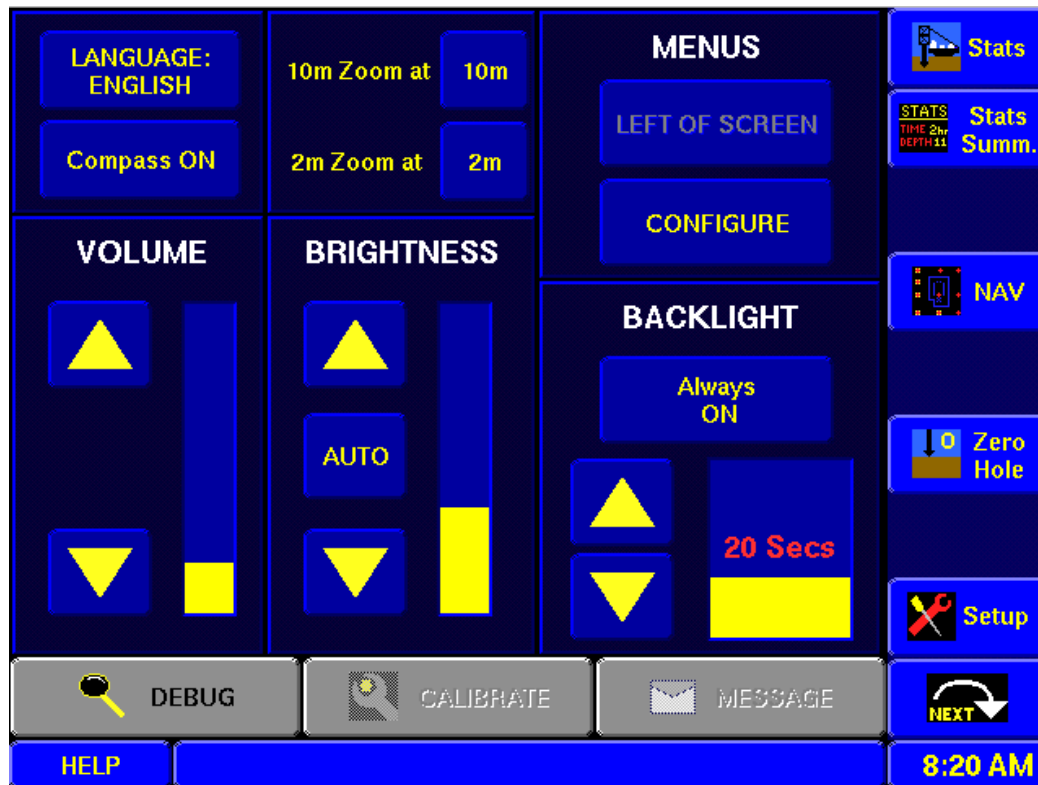

Figure 2: Accessing Basic Functions
2. Use the UP and DOWN arrow buttons under the BRIGHTNESS heading (refer to Figure 2) to alter the brightness of the screen. The yellow bar to the right of the UP and DOWN buttons shows the relative brightness of the screen.
2. Use the UP and DOWN arrow buttons under the VOLUME heading (refer to Figure 2) to alter the volume of the speaker. The yellow bar to the right of the UP and DOWN buttons shows the relative volume of the speaker. As the volume is increased and decreased, a voice will announce "Raise" and "Lower" respectively to allow you to determine the optimum volume for the conditions.
2. Use the large button directly below the BACKLIGHT heading (refer to Figure 2) to cycle the Backlight mode. The available modes are: